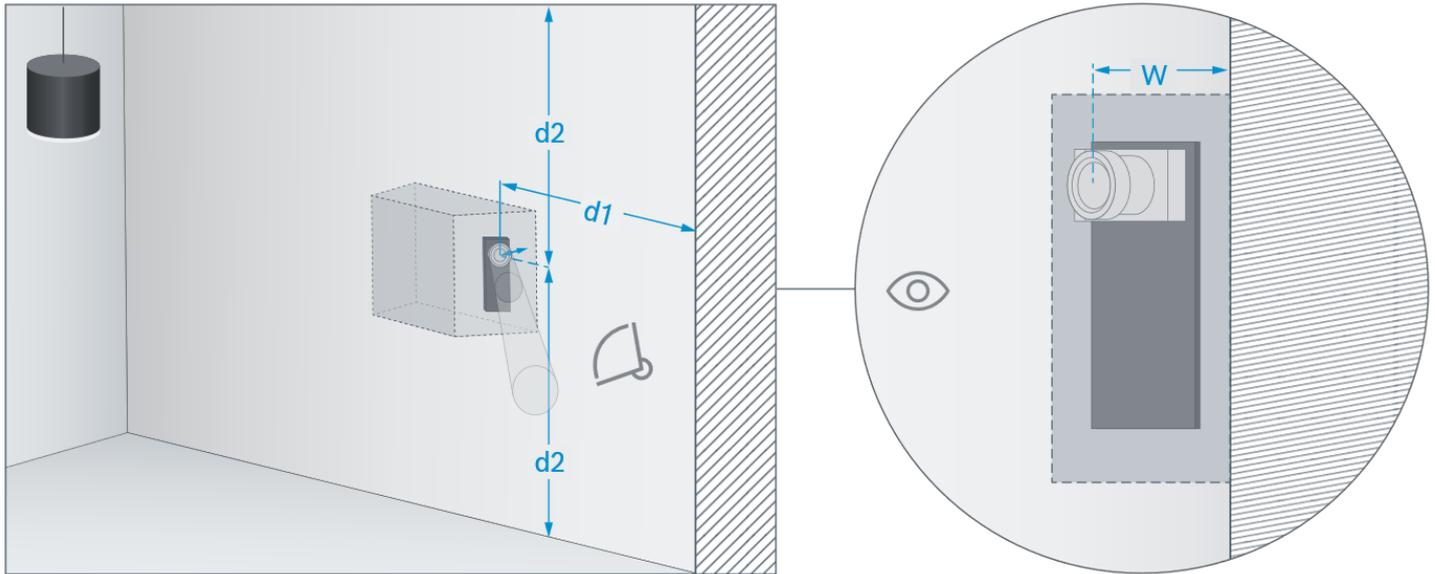
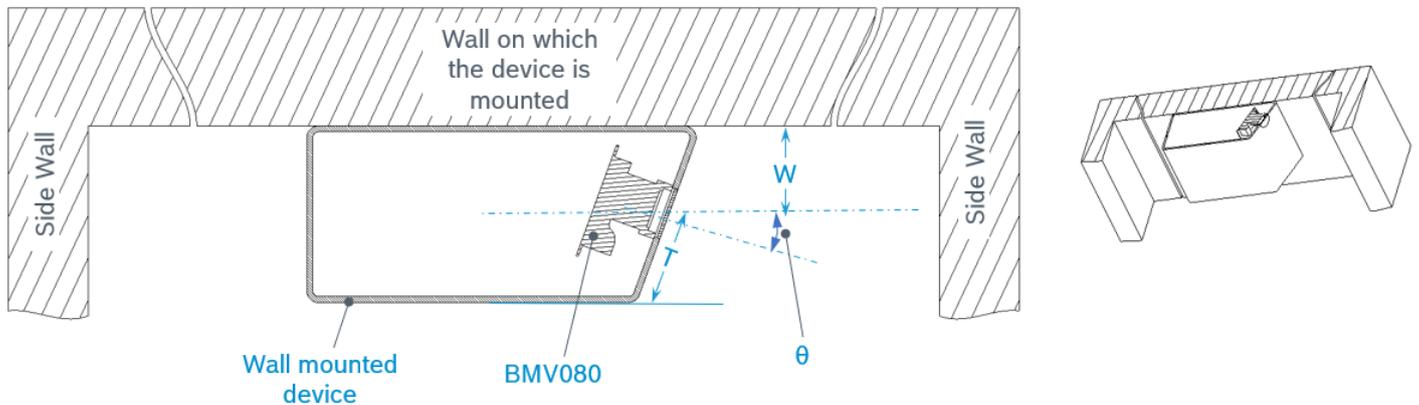

Figure 12: BMV080 (facing left or right) when mounted closer to the wall on host device
Figure 13: Schematic of BMV080 (facing left or right) when mounted closer to the wall on host device
- If BMV080 needs to be mounted closer to the mounting surface (e.g., wall), BMV080 must be tilted away from the surface as depicted in Figure 12 and Figure 13